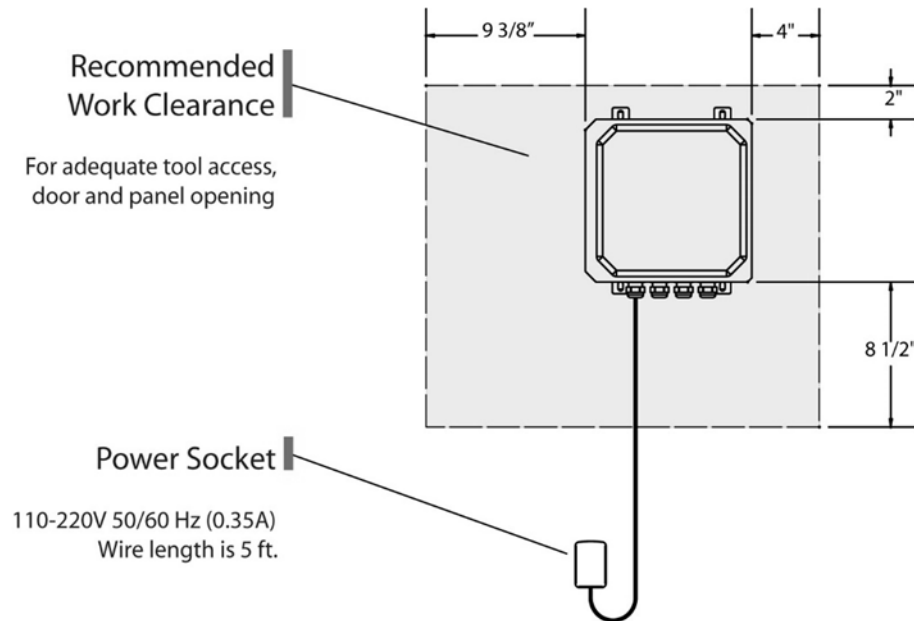

Figure 4.1 Mounting Clearance for iGrow1200™
2. Since the iGrow 1200™ is equipped with a hinged door and a hinged access panel for easy service and installation, make sure there is adequate workspace. The recommended area is as diagrammed in Figure 4.1.